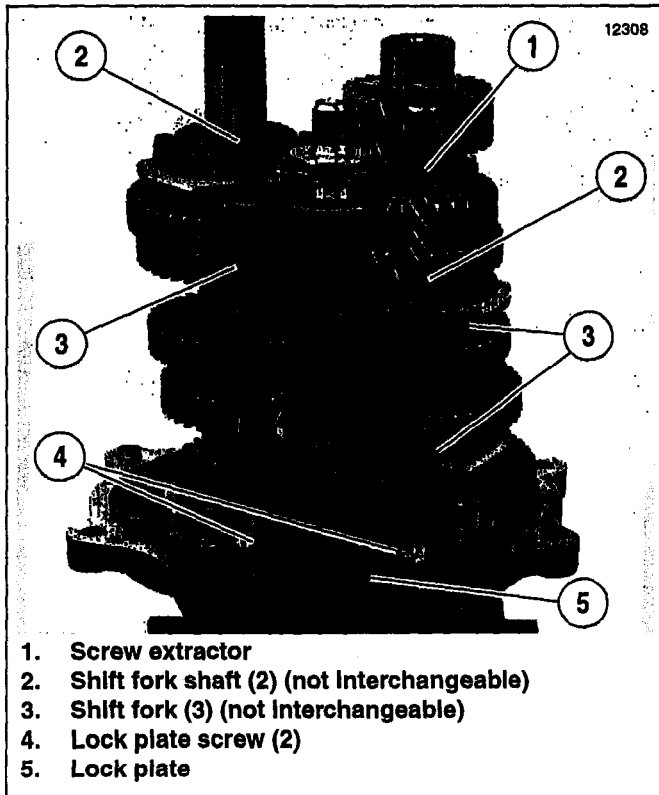

Figure 9. Transmission Gear Assembly with Shift Forks and Shift Cam
20. See Figure 9. With access door on end (shafts pointing upward), remove shift fork shafts (2) using screw extractor—not flute design (1). Shafts have slight interference fit. Shafts can be reused; do not damage end of shaft. Do not remove shift forks from shift fork shafts. Remove each shaft and shift fork(s) as a unit.
21. Remove two screws (4) and lock plate (5). Discard screws.
4. See Figure 9. Install lock plate (5) and new lock plate screws (4) (Part No. 35259-06 from 94445 recall parts kit) into transmission bearing housing. Tighten screws to 50-70 In-lbs (5.7-7.9 Nm).